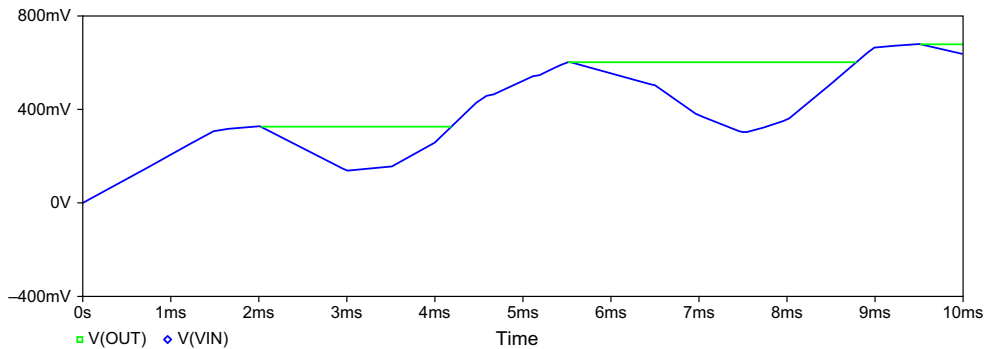

FIGURE 7.20
- 12. Place voltage markers on nodes **in** and **out** and run the simulation. Figure 7.20 shows the simulation response of the peak detector to the input voltage V_{in} .